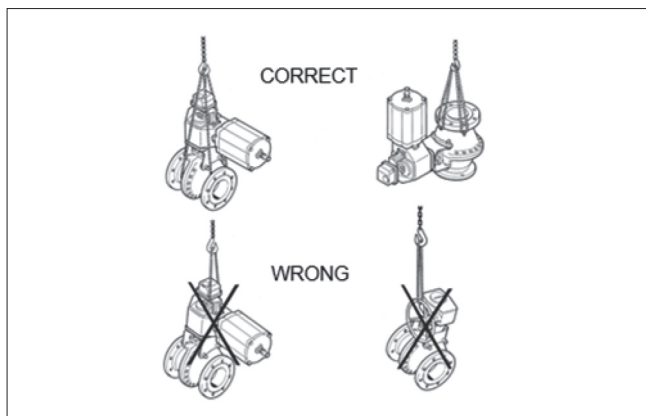

Fig. 4 Lifting the valve package
Do not lift the valve or the valve package from the actuator, positioner, limit switch or their pipes. When lifting the valve, place the lifting ropes around the valve body. See Figure 4.
When lifting the valve, place the lifting ropes around the valve body, see Figure 4.
- Carefully attach the ropes, loosen the pipe flange screws and lift the valve using the ropes. Make sure that you lift the valve correctly, see Figure 4.
- Tap loose the key (10) at the end of the ball stem (3).
- Loosen the gland packing nuts (18) and the bonnet's (8) fastening nuts (17) and pull the bonnet away from the ball stem (3).